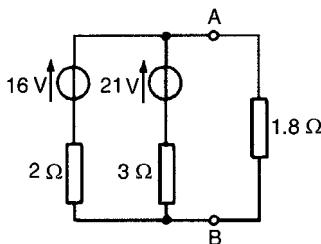

Figure 13.77
- 3 (a) Convert the network to the left of terminals AB in Fig. 13.77 to an equivalent Thévenin circuit by initially converting to a Norton equivalent network.
- (b) Determine the current flowing in the 1.8Ω resistance connected between A and B in Fig. 13.77